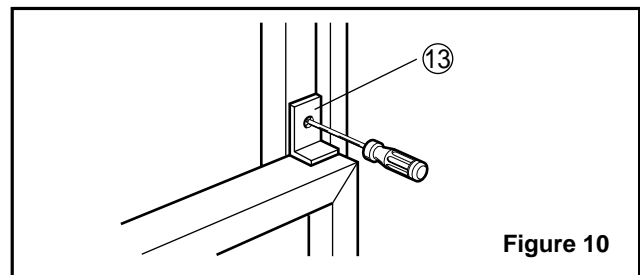

Figure 10
12. Attach the window Locking Bracket ⑬ with a type C screw. (See Fig. 10)